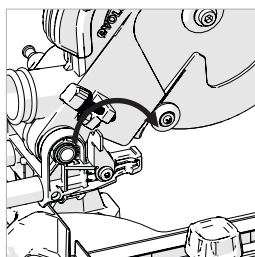

Fig. 26a
- Deploy the depth stop 'stop plate' **(Fig. 26a)** by rotating it forward from its storage position alongside the machine through approximately 150 degrees to its service position.